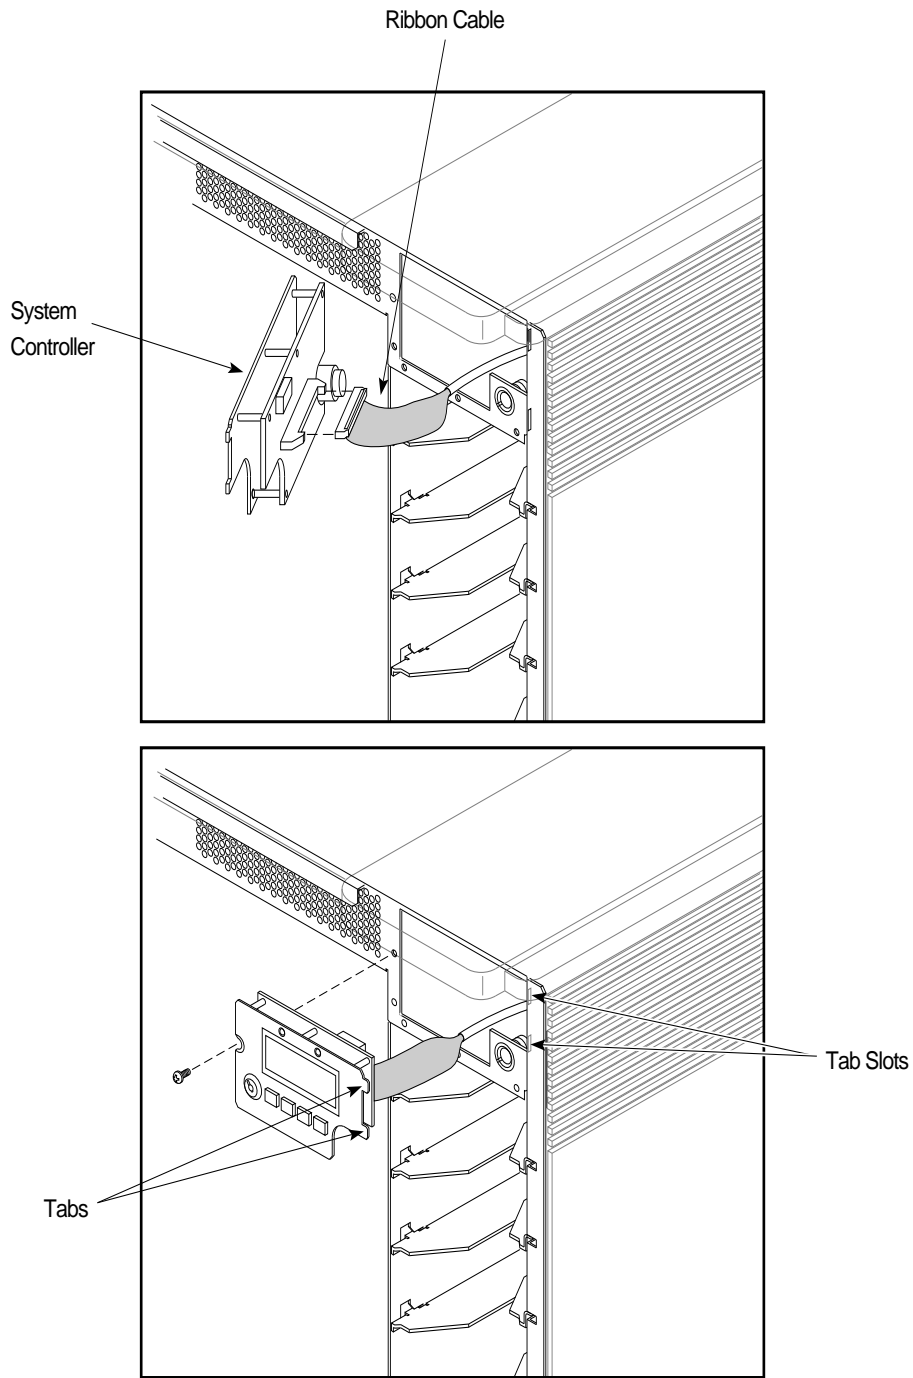

Figure 5-79 Replacing the Status Panel
4. Pull the left side of the system controller out until the two tabs on the right side of the controller are clear of their slots in the chassis. See Figure 5-79.